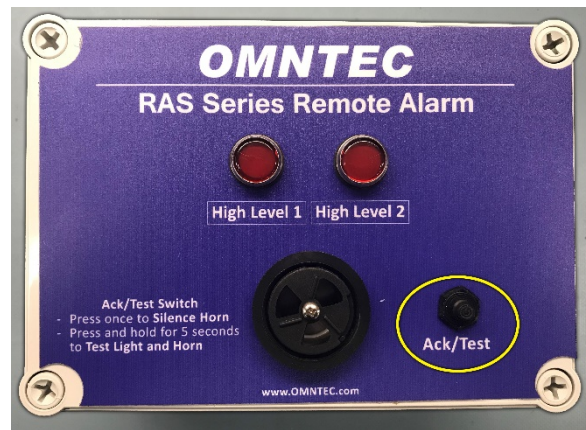

Figure 11.4
- You can also test this remote by pressing the “ACK/TEST” for 5 seconds. (See Figure 11.4)